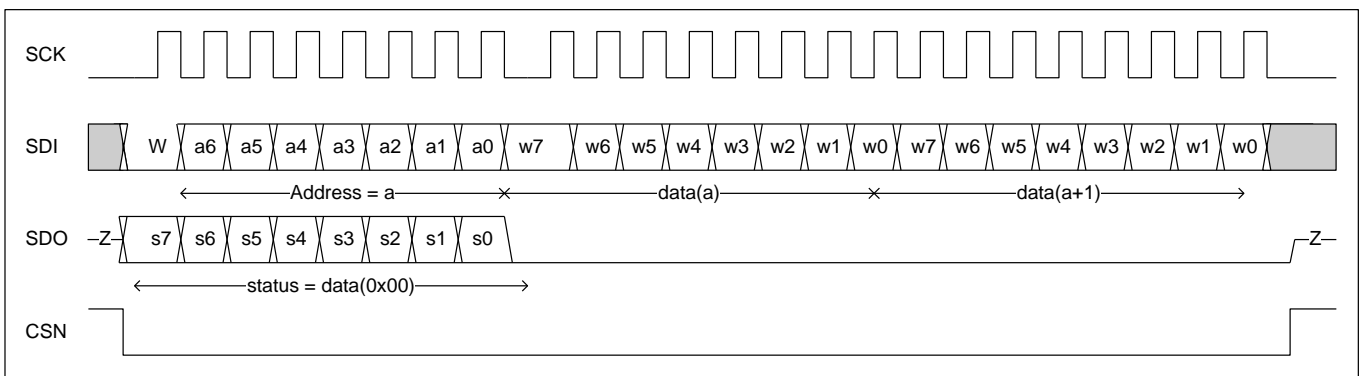

Figure 7: Multi-write SPI transaction
- Write one or more consecutive register(s) and read the status byte (register 0x00). See Figure 7 below. This action requires at least two bytes: one byte for address and write order, and at least one byte for writing at the desired address.